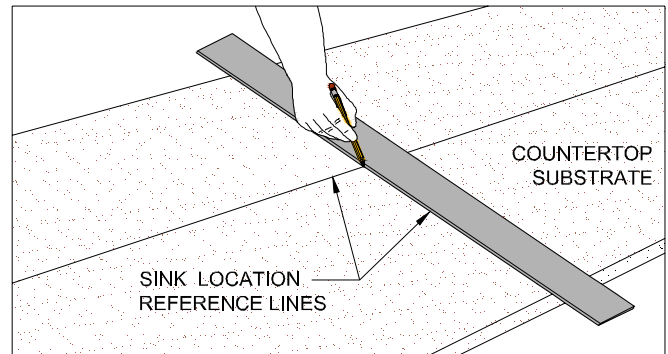

Figure 5A
- Locate where sink is to be installed on the substrate and draw reference lines (centerlines). (FIG. 5A)